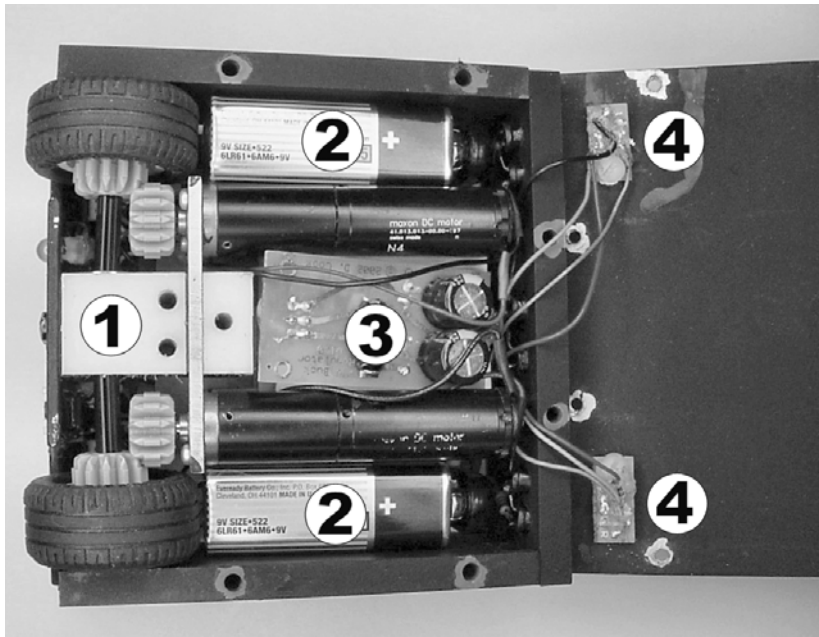

Figure 18-16. Drive train installed in Hard2C
This motor mount ① and overall drive train arrangement works very well in a constrained sumo robot body (see Figure 18-16). There's room on both sides for 9 V batteries ② and a voltage regulator power supply in the middle ③.
Figure 18-16 is actually a photograph from underneath the robot. You can see the reflective floor sensors ④ for detecting the edge of the sumo ring attached to the bottom lid of the robot.